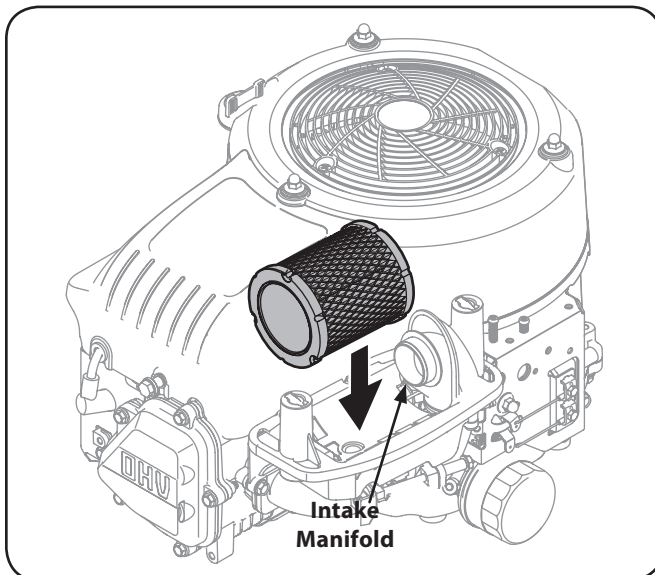

Figure 6-7
- Attach the new air filter with foam element, aligning the hole in the air filter with the intake manifold. See Figure 6-7.